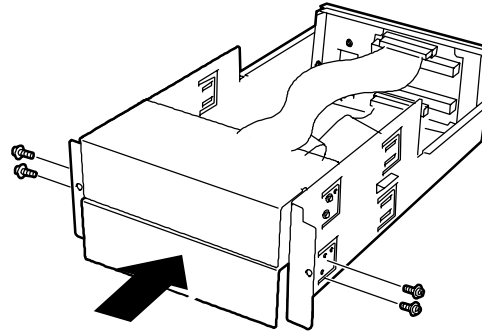

Figure 4-51. Installing a Blank Panel
6. When not installing another device, cover the empty bay by installing a blank panel in the bay and securing it to the 5 1/4-inch device tray with four screws, see Figure 4-51.